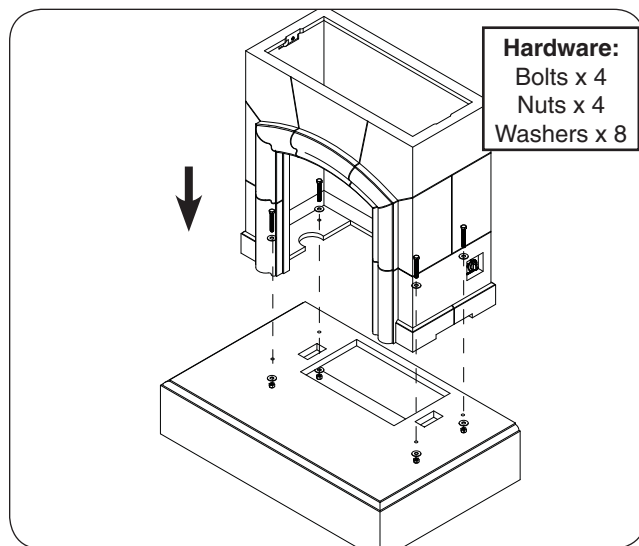

Fig. 13-2 Assemble body
2. Place the body piece on top of the hearth. Carefully align the pilot holes, and insert the hardware in the order shown in Fig. 13-2. Hand tighten, then use two  $\frac{3}{4}$ " open end wrenches (or equivalent) to fasten.